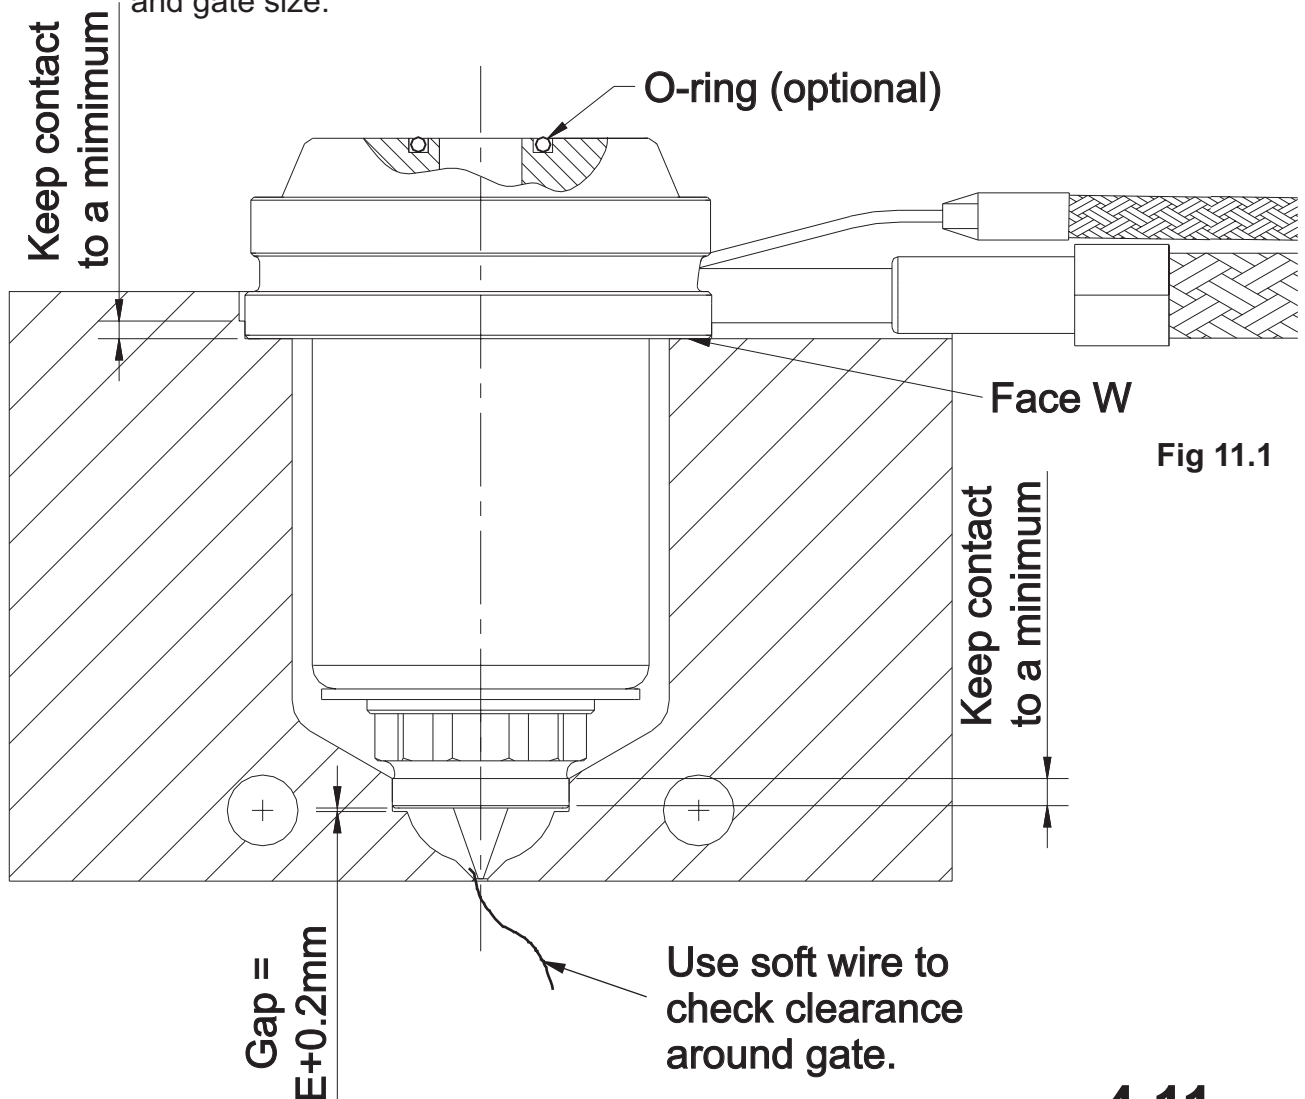

Fig 11.1
- Keep nozzle contact to a minimum in areas indicated in Fig 11.1